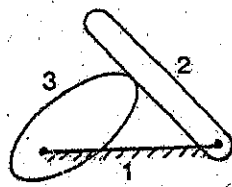
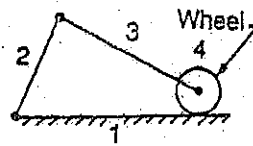
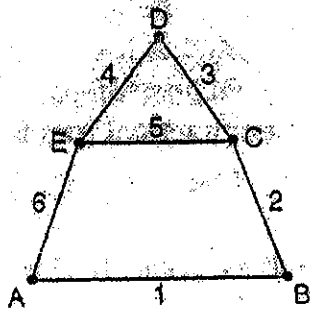
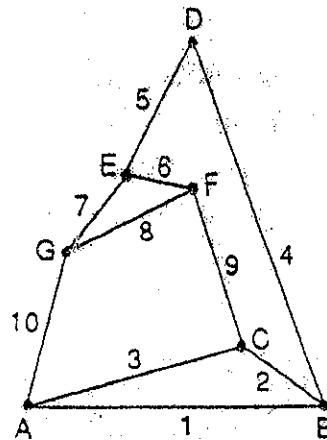

FIGURE-1.
FIGURE-2.
FIGURE-3.
FIGURE-4.
1. (a) (i) What is **Machine** ? Giving examples, differentiate between a **machine** and a **structure**. (5)
- (ii) Explain the terms: (I) Lower pair, (II) Higher pair , (III) Kinematic chain (5)
- (b) (i) What is meant by "degree of freedom" of a mechanism? Explain **GRUBLER'S** criterion for determining degree of freedom for mechanism. (4)
- (ii) Find the **degree of freedom** as shown in **FIGURE-1** and **FIGURE-2** and total number of binary joints of kinematic chain as shown in **FIGURE-3** and **FIGURE-4**. (6)